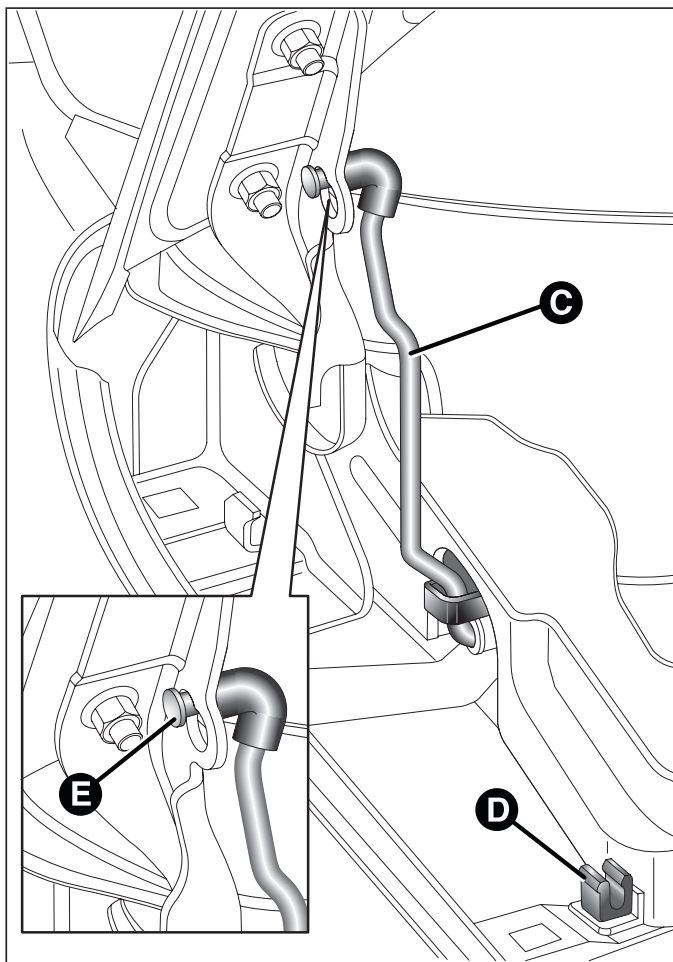

fig. 63
- ☐ lift the bonnet and, at the same time, release the supporting rod C fig. 63 from its catch D, then insert the end of the rod into housing E in the bonnet (larger hole) and push to safety position (smaller hole), as shown in the figure.
- ❑ keep the bonnet raised with one hand and remove rod C fig. 63 from housing E with the other, inverting the opening motion, then fit it back into its catch D;